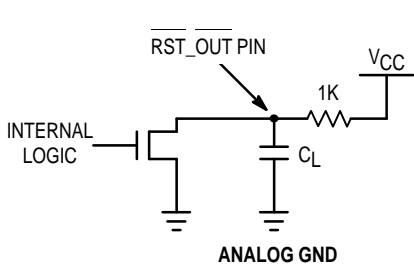

Figure 4. RST\_OUT Test Circuit
- The  $\overline{RST\_OUT}$  pin is an open drain N-Channel output. Therefore an external pull-up resistor must be provide to pull up the  $\overline{RST\_OUT}$  pin when it goes into the high impedance state (after the MC88916 is phase-locked to the reference input with  $\overline{RST\_IN}$  held high or 1024 'Q' cycles after the  $\overline{RST\_IN}$  pin goes high when the part is locked). In the  $t_{PLZ}$  and  $t_{PZL}$  specifications, a 1K $\Omega$  resistor is used as a pull-up as shown in Figure 4.